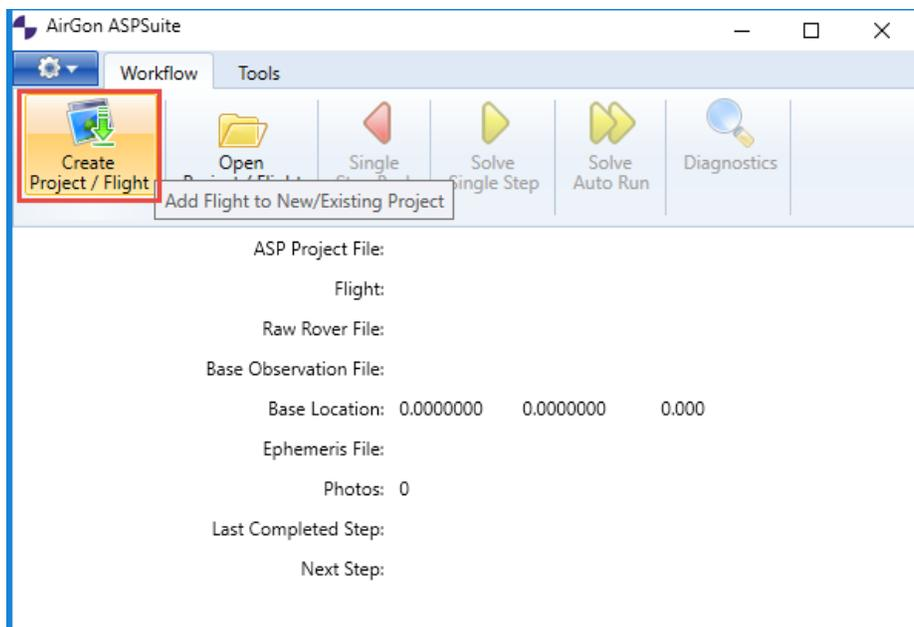

Figure 4- Create Project/ Flight
1. The first step in the workflow is to import data from the aircraft in the field and check the quality. Start by powering on the aircraft. An earlier version of Loki may need to be powered on before connecting with the USB cable. The newer version will not need to be powered on. The hot shoe device is made to connect directly to a DSLR camera, read the camera signal, and record the photo(s) position. Connect a USB cable from your computer to the Loki controller. Your aircraft should have come with a USB cable to download photos. Connect this cable from your computer to the aircraft. When both devices are connected, Open ASPSuite and select *Create Project/ Flight* (Figure 4). *Note: For Phantom 4 RTK, download: images, OBS and MRK files using DJI assistant 2 for Phantom. See Downloading Data for Phantom 4 RTK – PPK Processing in ASP Suite.*